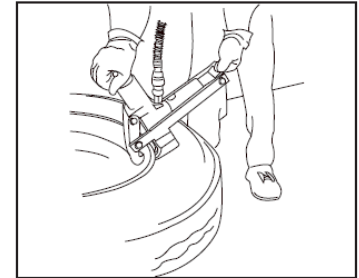

Figure 3
1. Run the air hydraulic pump so that the clamping jaw begins to tighten against the rim. (See Fig. 3.) Make sure the wedge-shaped teeth are placed well into the tire bead and against the rim flange. **NOTE:** To grab the rim flange evenly, you may have to try several times. Do not force the bead breaker when grabbing the rim flange.